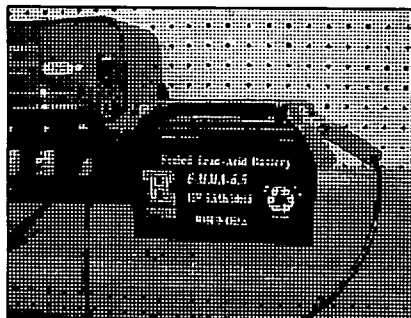

FIGURE 25
- 2 Connect the black negative (-) cable to the black negative (-) pole of the battery. (see figure 25)